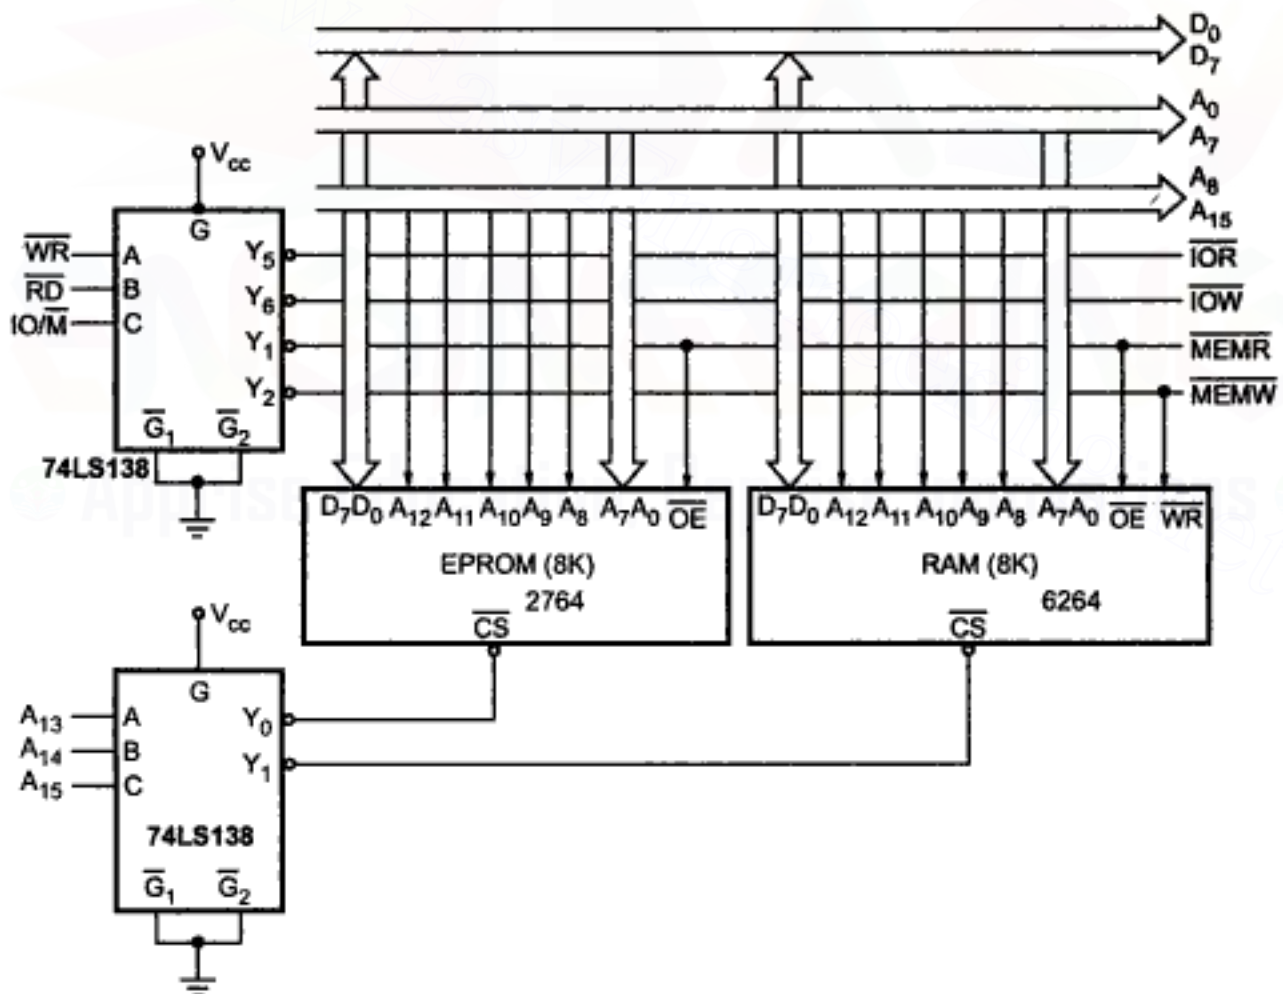

Fig. 6.19 Memory system using IC 2764 (8K) EPROM and 6264 (8K) RAM
**Solution :** Fig. 6.19 shows the desired memory system using IC 2764 (8K) EPROM and 6264 (8K) RAM. Memory requires 13 address lines ( $A_0$ - $A_{12}$ ) since  $2^{13} = 8K$ . The remaining address lines ( $A_{13}$ - $A_{15}$ ) are decoded to generate chip select ( $\overline{CS}$ ) signals. IC 74LS138 is used as decoder. When ( $A_{15}$ - $A_{13}$ ) address lines are zero, the  $Y_0$  output of decoder goes low and selects the EPROM. This means that  $A_{15}$ - $A_{13}$  address lines must be zero to read data from EPROM. The address lines  $A_{12}$ - $A_0$  select the particular memory location in the EPROM when  $A_{15}$ - $A_{13}$  lines are zero. Similarly, when address lines  $A_{15}$ - $A_{13}$  are 001, the  $Y_1$  output of decoder goes low and selects the RAM. The Table 6.6 shows the memory map for the designed circuit.